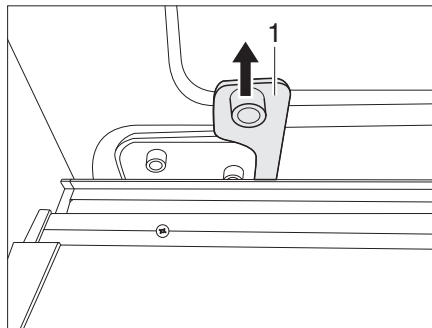

Fig. 18 Emergency unlocking mechanism
- Pull the emergency unlocking mechanism (Fig. 18,1) forcefully upwards and latch it into the holding pin. The sliding door is now disconnected and can only be opened and closed manually.